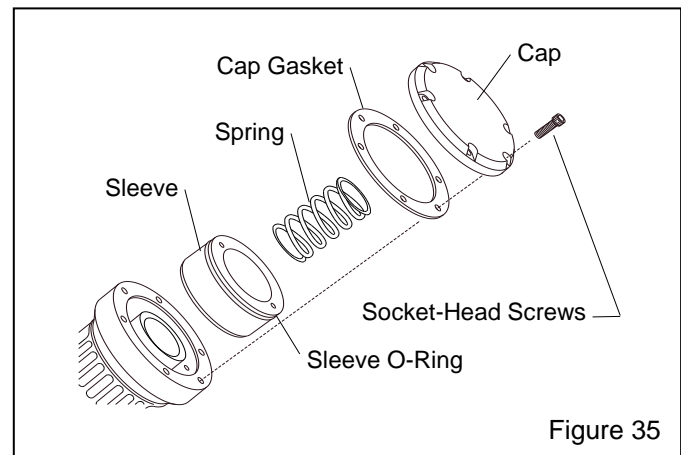

Figure 35
7.3.2.7 Refer to Figure 35 and place the O-ring on the cylinder sleeve, and insert the sleeve (O-ring end up) into the body. Make sure the open side of the upper (small) U-seal does not fold back during assembly; the sleeve is chamfered to make assembly easier.